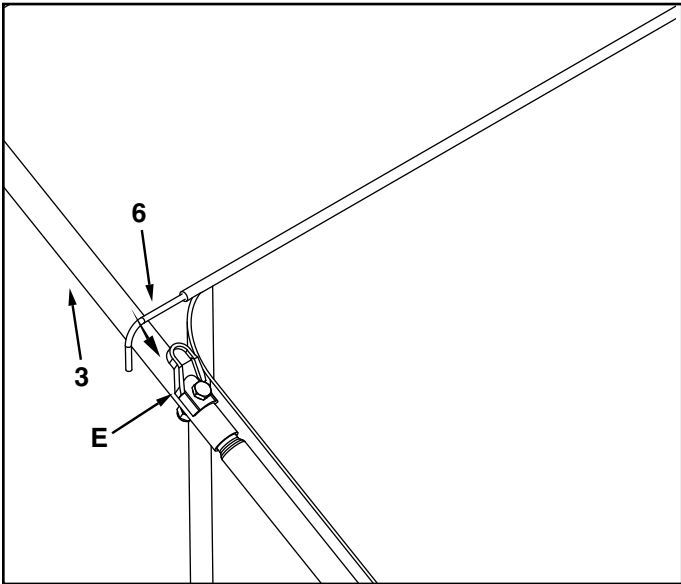

FIGURE 8
11. Place the upper hopper bag and bent bag rod (6) into the bag rod clips (E) on the hopper handle (3). See figure 8.